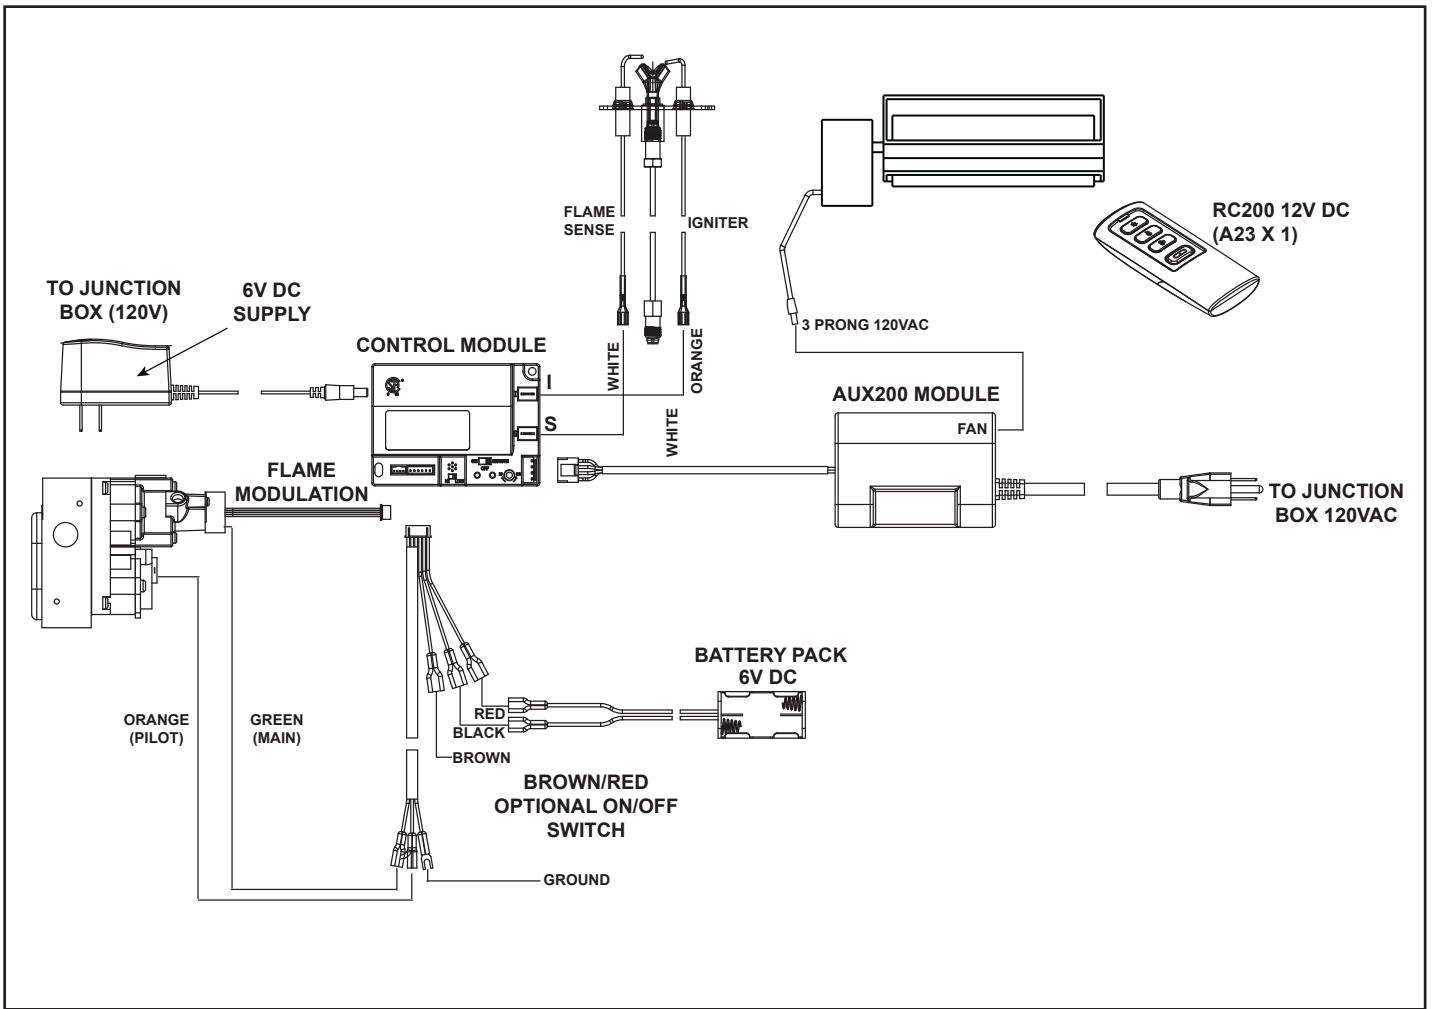

Figure 8.2 Intellifire Pilot Ignition (IPI) Wiring Diagram
- Refer to Figure 8.2, IPI Wiring Diagram.